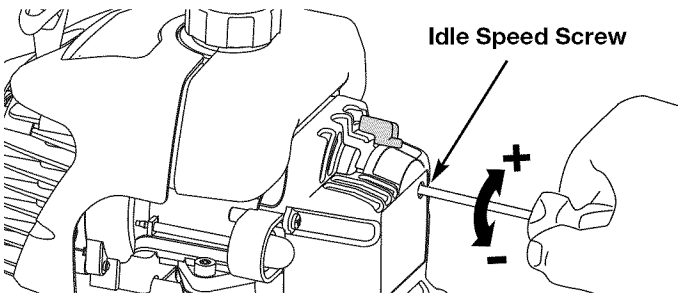

Fig. 30
The idle speed of the engine is adjustable through the air filter/muffler cover (Fig. 30).
2. Release the throttle trigger and let the engine idle. If the engine stops, insert a small phillips or flat blade screwdriver into the hole in the air filter/muffler cover (Fig. 30). Turn the idle speed screw in, **clockwise**, 1/8 of a turn at a time (as needed) until the engine idles smoothly.